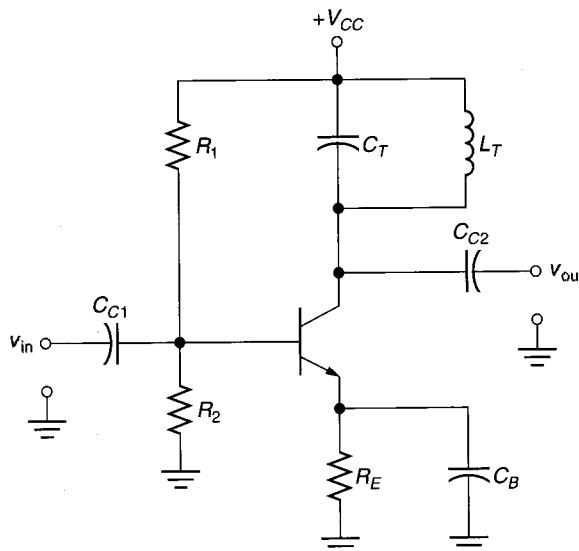
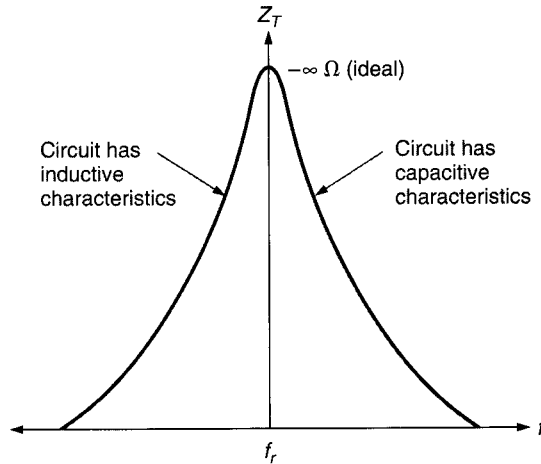
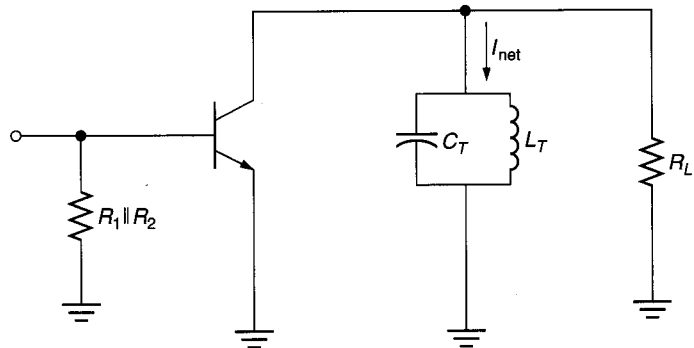

FIGURE 17.32 A typical BJT discrete tuned amplifier.
FIGURE 17.34 Frequency response of a parallel  $LC$  tank circuit.
FIGURE 17.35 An equivalent circuit for a discrete tuned amplifier.
Discrete component circuits are tuned using parallel *LC* (inductive-capacitive) circuits in place of a collector (or drain) resistor. A typical BJT tuned amplifier is shown in Figure 17.32. The collector of the transistor is coupled to  $V_{CC}$  via the parallel *LC* circuit ( $C_T$  and  $L_T$ ). The parallel *LC* circuit determines the frequency-response characteristics of the
Thus,  $I_C > I_L$ , and the circuit is capacitive. These points are illustrated in Figure 17.34. Now, let's apply these principles to the tuned amplifier in Figure 17.32.
**OBJECTIVE 8** ► The ac equivalent of Figure 17.32 is derived in the usual fashion. The only difference is that the tank circuit components are not shorted. This ac equivalent circuit is shown in Figure 17.35. The load resistance is included to aid our discussion.